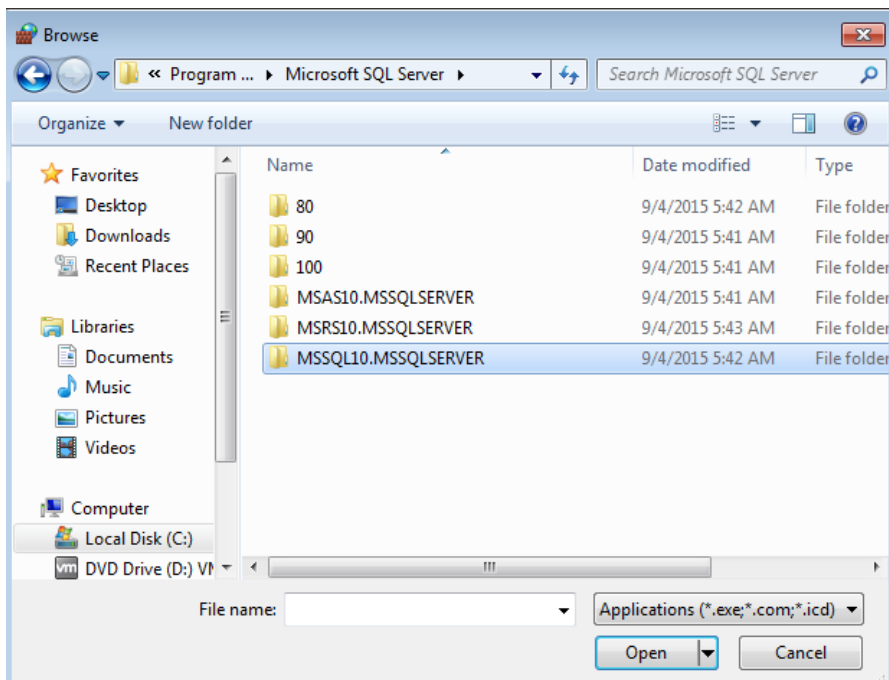

Fig.1.23 Microsoft SQL Server
(8) Open MSSQL10.MSSQLSERVER folder (see Fig.1.23).